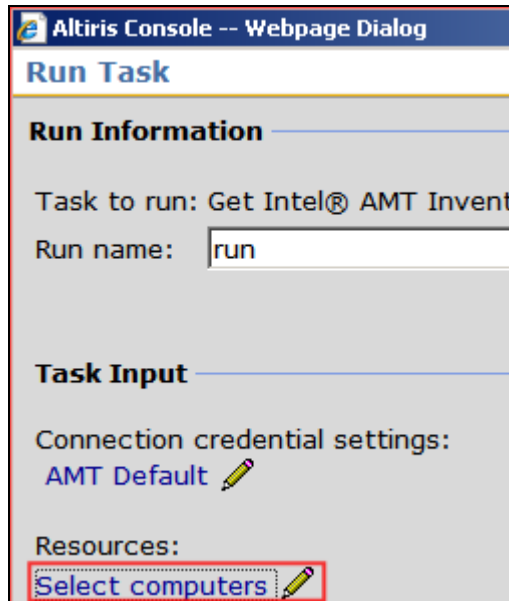

Figure 2. Enter run name and specify task resources
5. Select the resource link **Select computers** (see Figure 2).